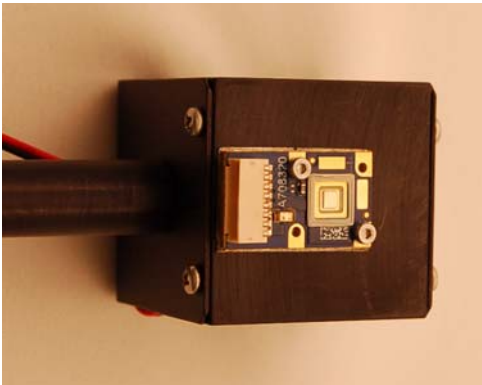

Figure 10: Fully mounted PhlatLight device
4. Insert screws in the holes of the coreboard and tighten. To ensure equal pressure is exerted by all screws, alternate tightening each screw until the board is securely fastened (Figure 10). The device is now mounted and ready for electrical connections.